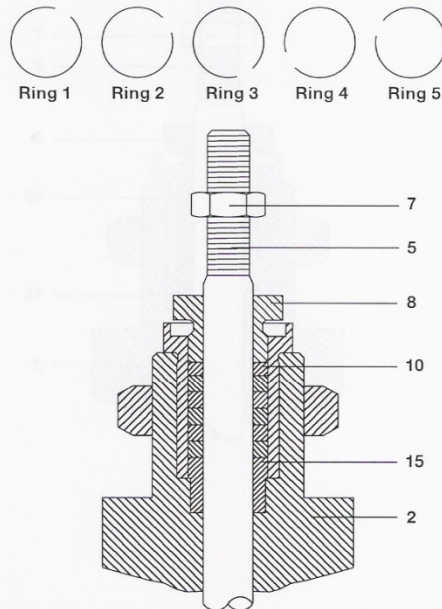

Fig. 3
- Using a new gasket (12) refit the bonnet and stem/bellows assembly onto the valve body. While pushing the stem so that the valve plug is on the seat, tighten the bonnet nuts (13) to the recommended torque (see Table 2).
- Fit the new stem seal set (10 + 15) see Section 4.3, Figure 3 as described in Section 3.1, ensuring that the valve stem (5) moves freely after assembly.